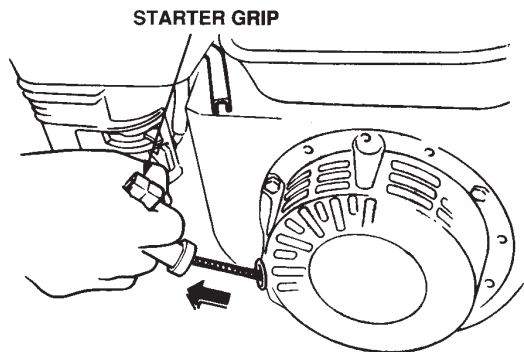

Figure 14. Recoil Starter Grip (Pull to Start)
5. Grasp the starter grip (Figure 14) and slowly pull it out. The resistance becomes the hardest at a certain position, corresponding the compression point. Rewind the rope a little from that point and pull out sharply.